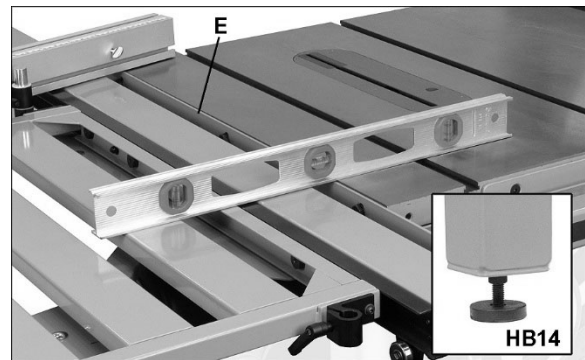

Figure 8-1
2. Place a level at different points across sliding table and saw table. See Figure 8-1.
3. Adjust height of leveling feet (HB14) to make tables level. If more adjustment is needed, loosen three screws holding mounting bracket (E) to saw table, and nudge bracket up or down.
4. Tighten screws on mounting bracket (E).